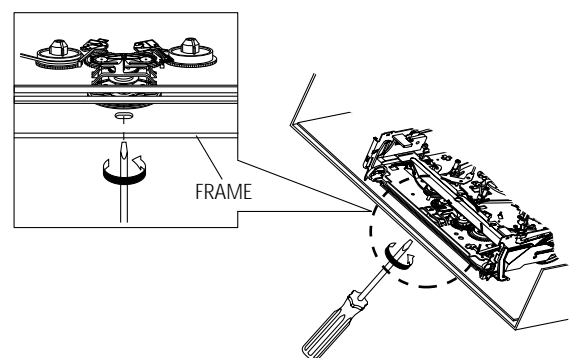

Fig. 4-36
- 3) When Slider S, T are approached in the position of unloading, rotate holder Clutch counterclockwise after inserting screw driver in the hole of frame's bottom in order to wind the unwinded tape. (Refer to Fig. 4-36)